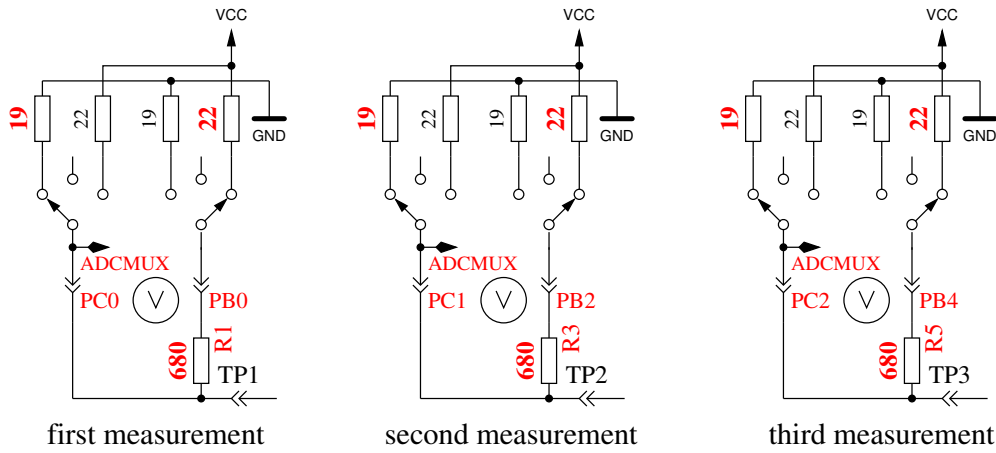

Figure 5.53: Measurement of internal resistance of Port C switched to GND
5. **This step tests the capability of GND (-) connected 470kΩ resistors (H) to pull the test pins to GND.** Row 1 shows the text “RH-”. Row 2 should display zero for all three pins.
6. **This step tests the capability of VCC (+) connected 470kΩ resistors (H) to pull the test pins to VCC (+).** Row 1 shows the text “RH+”. The results are shown als difference to VCC and should be near zero. Great differences from the best value for test 5 and 6 are errors such as isolation problem, flux material or damaged port.
8. **Measuring of internal resistance of pin output switched to the GND signal.** This test and the follwing tests will only be done, if the option AUTO_CAL is selected. The internal resistance of the port C outputs switched to GND (-) are measured with the current of to VCC (+) switched 680Ω resistors, see Figure 5.53. Only the three pins of the ADC port are measured, the resistor port B (PB0,PB2 and PB4) can not be measured without hardware modification. Is is assumed that the port resistance of the different ports are nearly identical. The resistor value will be shown in the next test.